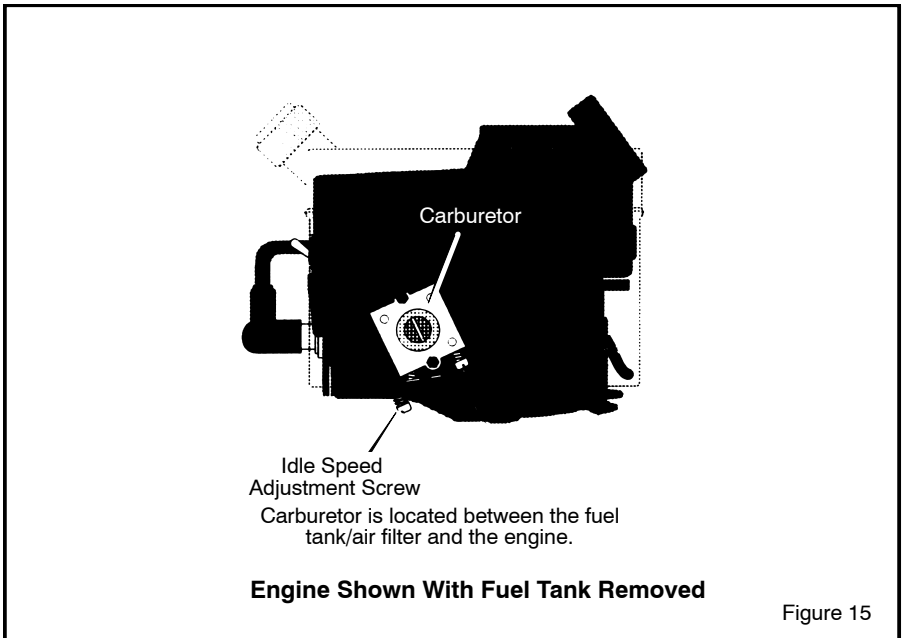

Figure 15
2. Locate the **idle speed adjustment screw** (see Figure 15). Turn the **idle adjustment screw** 1/4 turn counterclockwise (to the left).